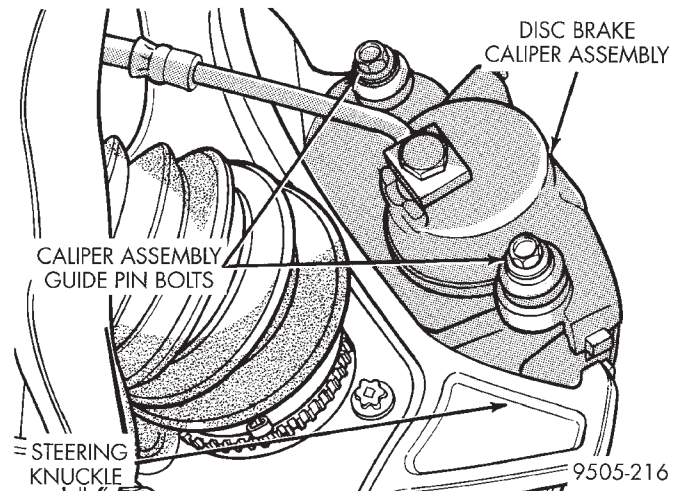

Fig. 32 Front Disc Brake Caliper Mounting
(3) Raise vehicle on jack stands or centered on a frame contact type hoist. See Hoisting in the Lubrication and Maintenance section of this manual, for the required lifting procedure to be used for this vehicle.
(4) Remove front tire and wheel assembly from the hub.
(5) Remove front disc brake caliper to steering knuckle guide pin attaching bolts (Fig. 32).
(8) Install disc brake caliper assembly to steering knuckle guide pin bolts (Fig. 32). Tighten caliper assembly guide pin bolts to a torque of 22 N·m (16 ft. lbs.).